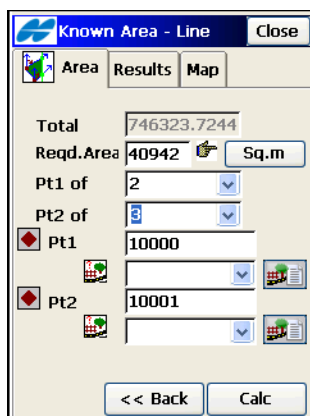

Figure 14-45. Line – Area Tab 2
- **Next** – opens the second screen of the *Area* tab (Figure 14-45).